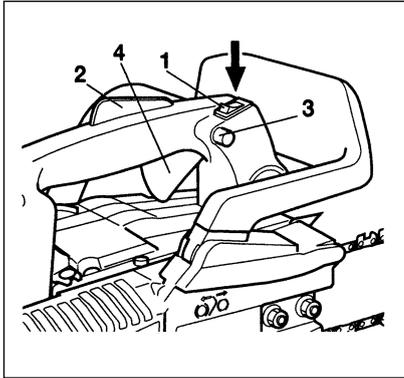

Fig. 2-2
Starting (Fig. 2-2, 3)
2. With the safety trigger (2) pressed pull throttle trigger (4) and push throttle lock (3), then slowly release the throttle trigger first, then the safety trigger. This will lock the throttle in starting position. (Fig.2-2)